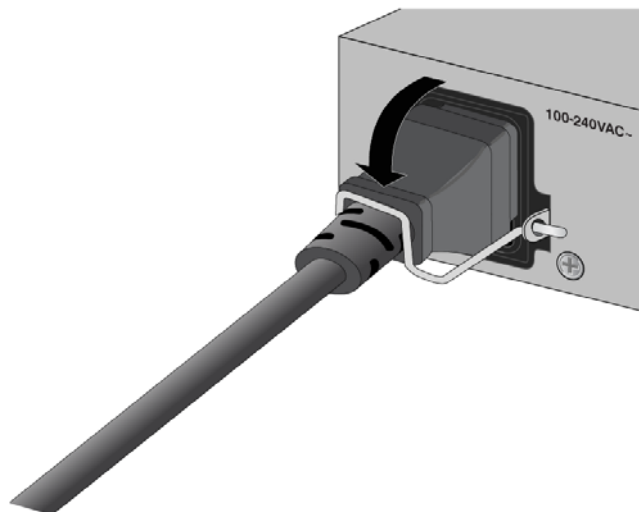

Figure 42. Lowering the Power Cord Retaining Clip
3. Lower the power cord retaining clip to secure the cord to the switch. Refer to Figure 42.